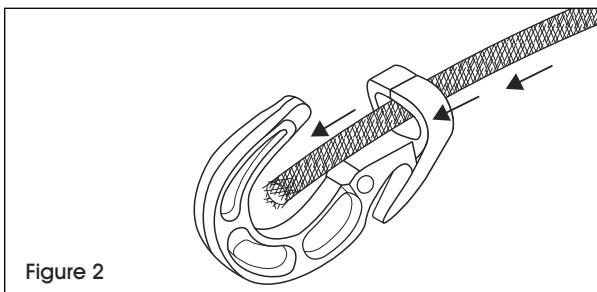

Figure 2
2. Place one end of bungee cord through hole at bottom of hook. (See Figure 2)